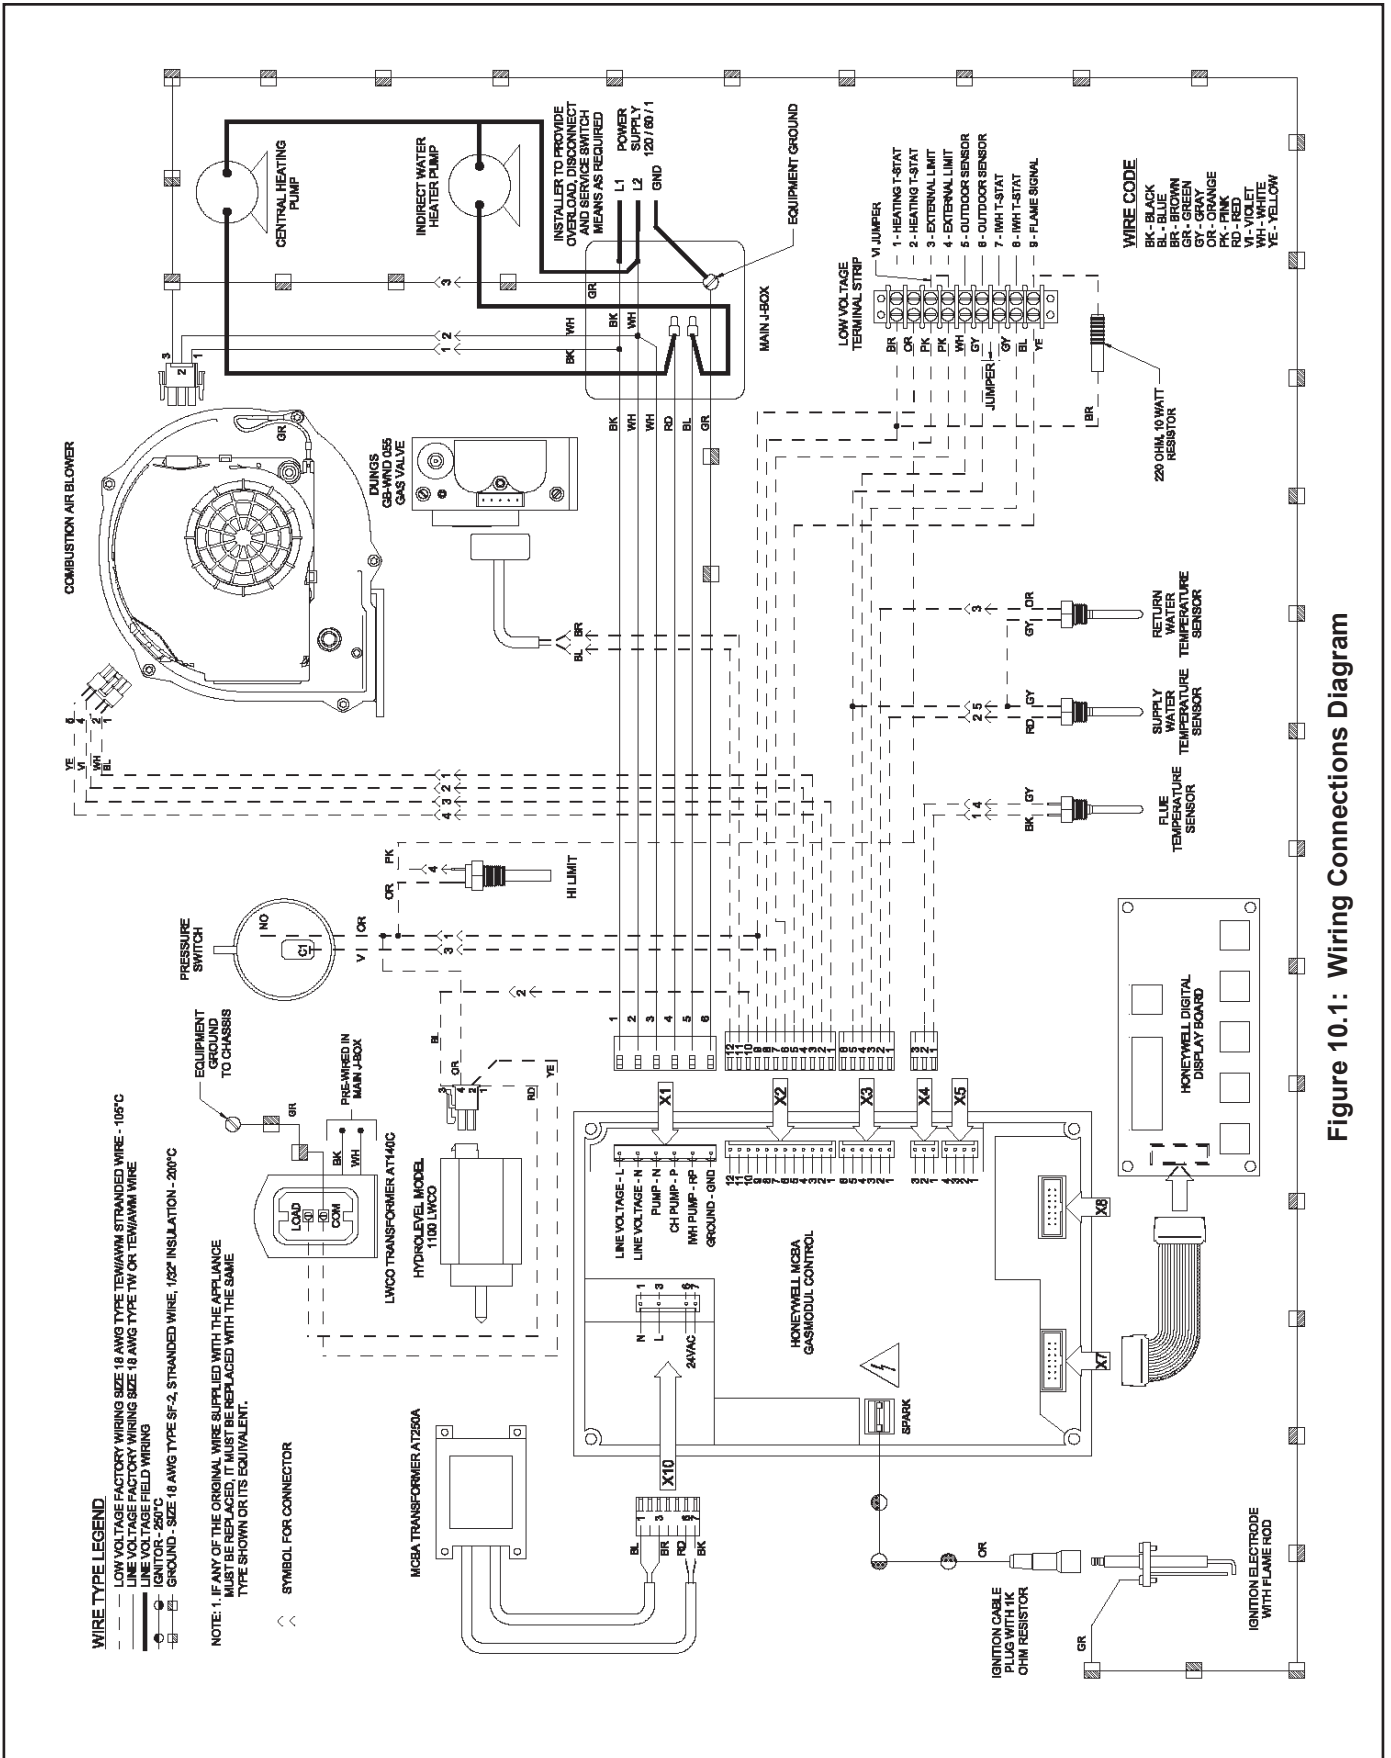

Figure 10.1: Wiring Connections Diagram
- 6) Manual Reset High Limit (Required by some codes) - This control is required by ASME CSD-1 and some other codes. Install the high limit in the boiler supply piping just above the boiler with no intervening valves. Set the manual reset high limit to 200°F. Wire the limit per Figures 10.1 & 10.2 in the Wiring section.
- 1) Line Voltage (120 VAC) Connections (Figure 10.1) – The line voltage connections are located in the junction box on the right side of the vestibule:
- 3) Low Voltage Connections (Figure 10.1) – These connections are screw terminals located on the terminal strip next to the junction box on the left: